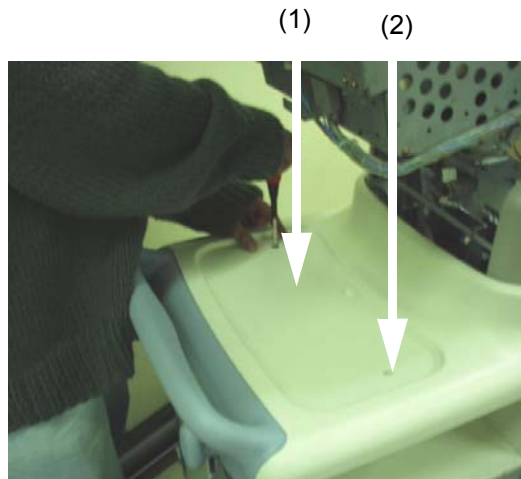

Figure 8-52 Unscrew 2 screws from the Top cover
- 4.) Unscrew two screws (1-2) from the top side of the Top cover. Refer to Figure 8-52 on page 8-37 .